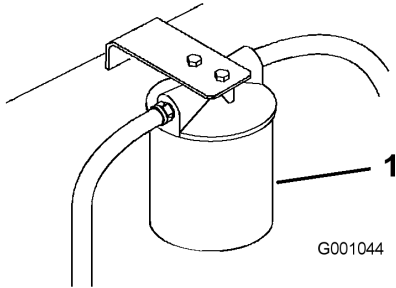

Figure 56
3. Place a drain pan under filter, remove the old filter and wipe the filter adapter gasket surface clean (Figure 56).